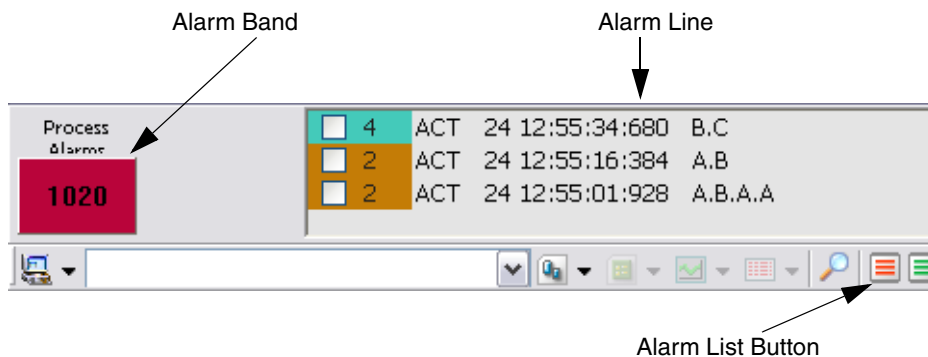

Figure 78. Accessing the Process Alarm List
- Click on the Process Alarm List button in the Application Bar to see a list of all process alarms, see Figure 78.
- Click on an Alarm Band to see a list of all alarms for a specific process area, see Figure 78. For more about Alarm Band see Alarm Band on page 121.
- From an Alarm Line in the Application Bar using the context menu (see Figure 78).